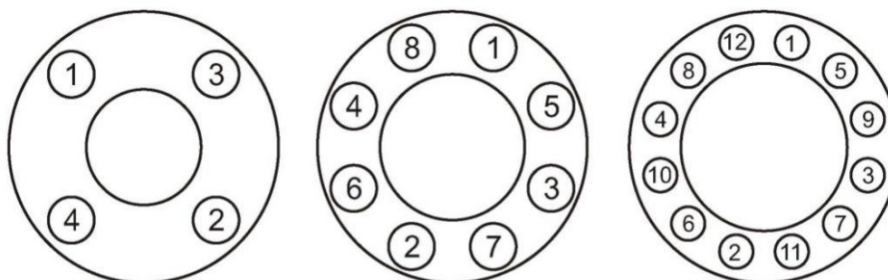

Figure 2.6 - The sequence of tightening the flange bolts
- Tighten the nuts in the sequence shown in Figure 2.6.